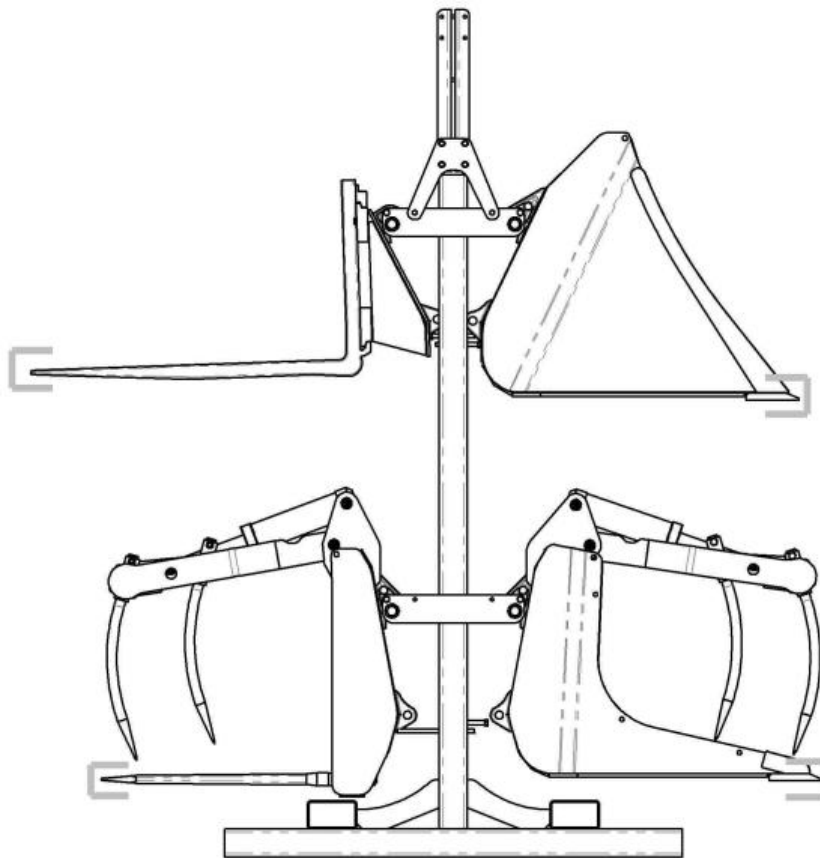

Fig. 3 - Tool rack fitted with four front loader tools
- b. The tool rack must be equipped on both sides and always starting from the bottom. The heavier tools are always on the bottom section and the lighter ones are mounted on the top. Tools that lie below the rack instead of hanging in the hooks must not be used (Fig. 3). All tools must hang on hooks and be aligned using the stop screws.
- e. All projections of the suspended front loader tools that have sharp corners or edges (e.g. shovel cutting edges, spikes, prongs, etc.) must be covered by means of the appropriate measures or have protective caps fitted (Fig. 3).